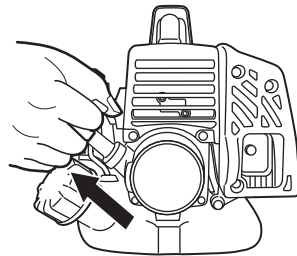

Fig. 18
(4) Pull recoil starter briskly, taking care to keep the handle in your grasp and not allowing it to snap back. (Fig. 18)
(6) Pull recoil starter briskly again. (Fig. 18)